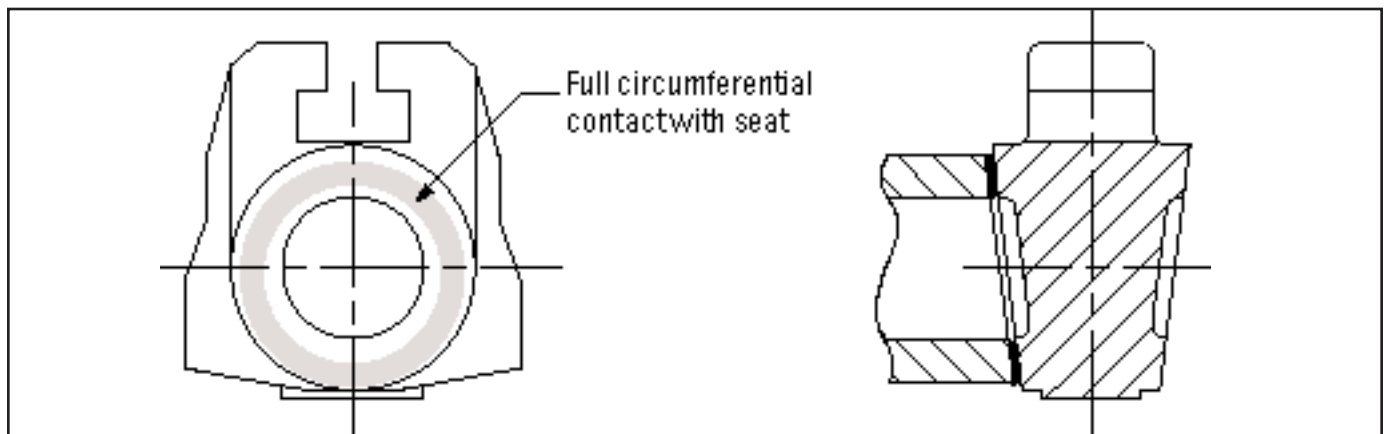

Figure 6.1A Wedge seating face
1. After the seating faces of the wedge and/or seats have been relapped and cleaned, you must check the wedge-seat fit. Place the marked-up side of the wedge together with marked-up side of the seat. Slowly lower the wedge into the body and find the correct mating point of the faces. Use bearing blue to check seat contact. Spread a light coating of bearing on wedge seating faces, slip wedge onto the stem. Lower stem/wedge together with the bonnet. Secure bonnet with studs/nuts. With the handwheel, close the valve firmly and then open partially, remove bonnet nuts and lift entire bonnet assembly. Care should be taken that the wedge does not slip off the stem "T" head. Check wedge seating face for 100% contact as shown in *Figure 6.1A*.
3. *Figure 6.1A* illustrates a wedge with a full seating circumference. This must be achieved when fitting a wedge.